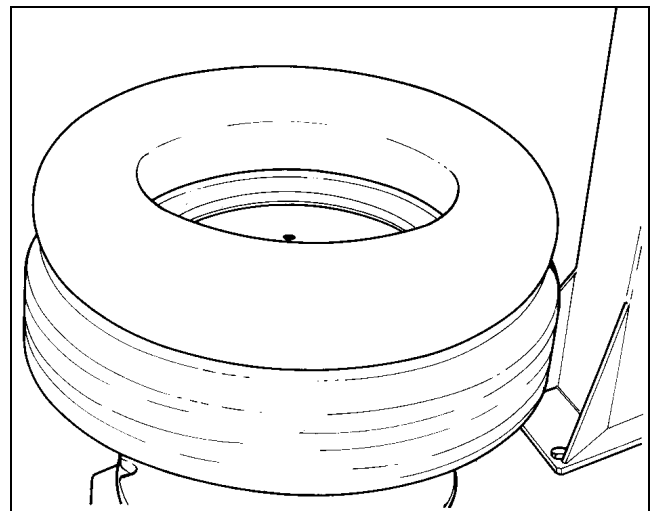

Fig.23
B. Confirm that the tube is designed for tires(Fig.23).